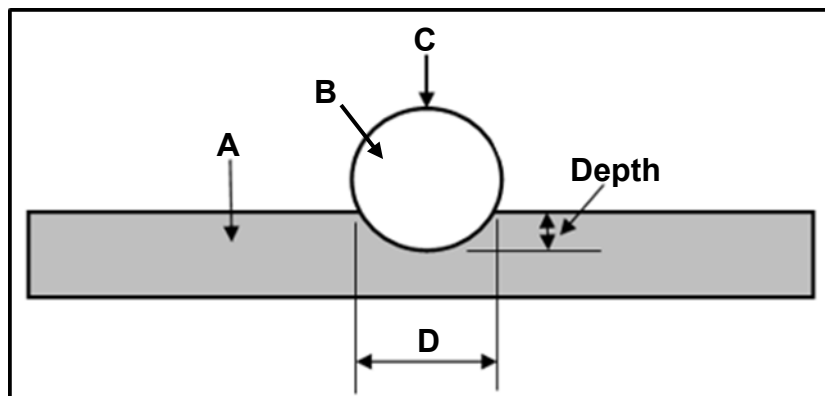

FIGURE 7.2
7.2 FIGURE 7.2 below shows an indentation during a Brinell hardness test. Label **A–D**.